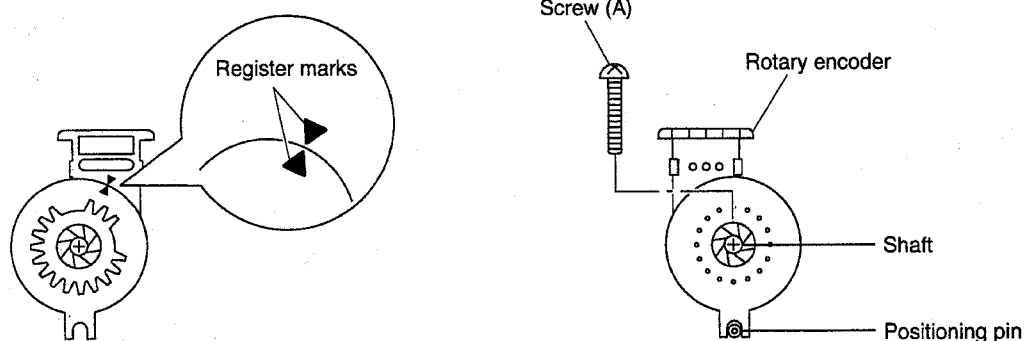

Fig. 2-3-3
- (1) Make sure that the mark E of the control plate is in alignment with the mark ▼ of the loading arm gear shaft and bring the register marks on the rotary encoder into alignment as indicated in Fig. 2-3-3.
- (2) Turn over the rotary encoder with its register marks kept in alignment and install it by fitting on the shaft of the rotary encoder guide and the positioning pin.
- (3) Tighten the screw (A) to complete the installation.